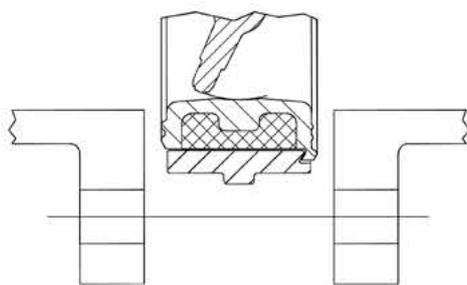

fig. 2
- while you insert the valve between the flanges and you subsequently block them, the disc must be kept in an half-open position without exceeding the valve edges (fig. 2)